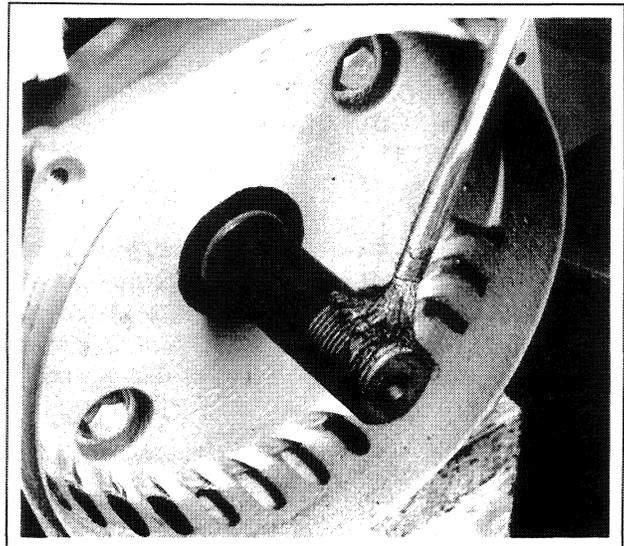

Figure 2-20. Applying Anti-Seize Compound
1. Clean rotor shaft and crankshaft threads with compressed air. Coat crankshaft threads with anti-seize compound, and thread rotor onto crankshaft turning it handtight. Figure 2-20. Finally tighten rotor by placing a wood block against the leading edge of one of the rotor poles and tightening with one or two moderately-sharp hammer blows to the block's end.